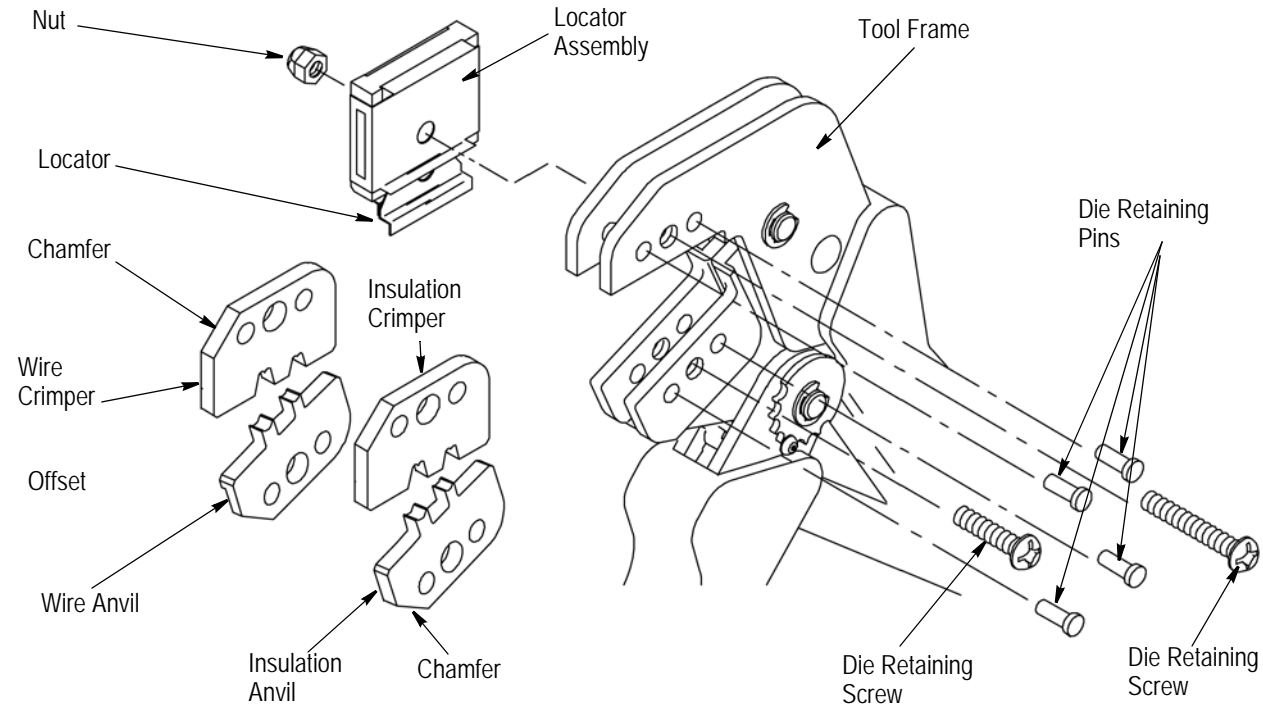

Figure 2
**2. DESCRIPTION** (Figure 1 and Figure 2)
### 3. INSTALLATION AND REMOVAL OF DIE SET AND LOCATOR ASSEMBLY (Figure 2)